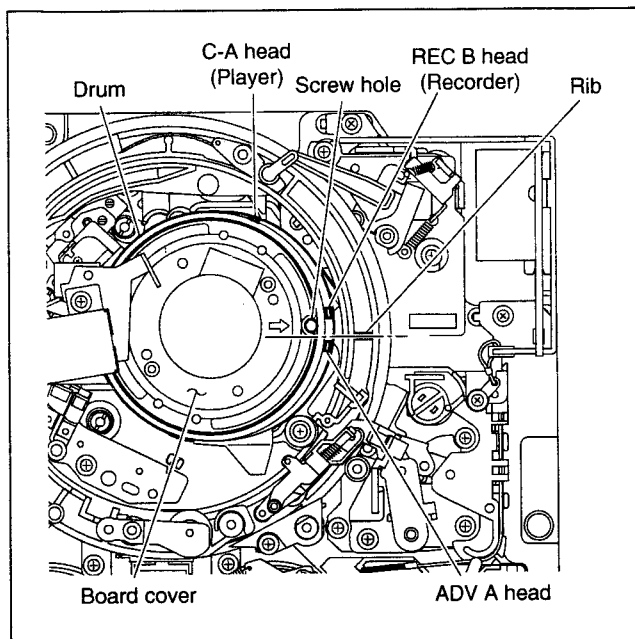

Figure 2. Setting of Drum Position
1. Turn the upper drum manually counterclockwise (\curvearrowright) to align the screw hole (\Rightarrow mark on the board cover) to the rib of the threading ring as shown in Figure 2.
(Refer to Figure 2.)